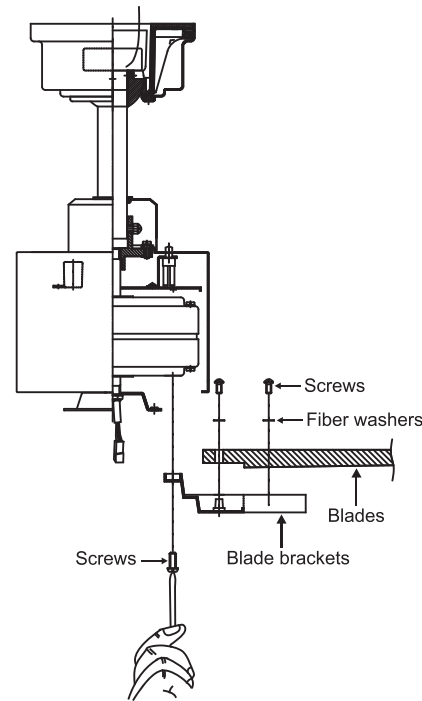

Fig. 16
Step 1. Attach a blade to a blade bracket using the screws and fiber washers provided. (**Fig. 16**)
Step 2. Attach each blade assembly to the motor using the "Pre-Installed" mounting screws in the blade bracket. (**Fig 16**)